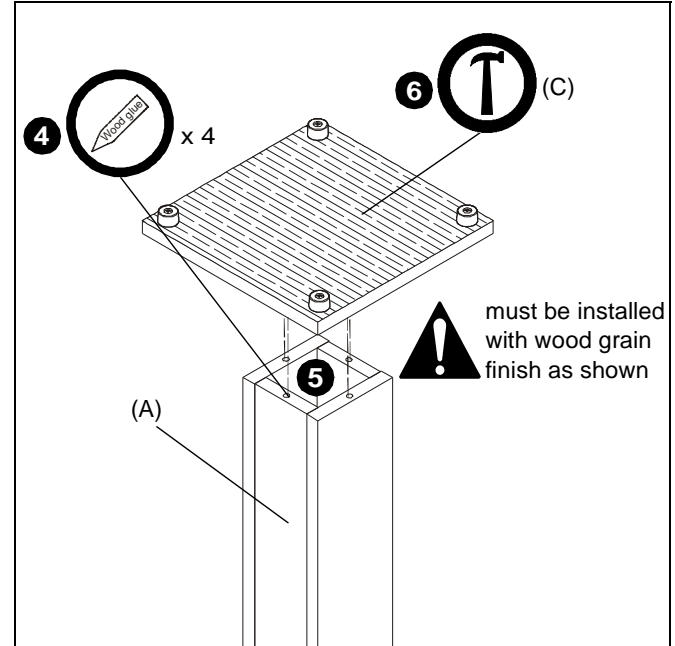

Figure 2
4. Fill the four holes on either end of the center column half full of wood glue. (See Figure 2)
IMPORTANT ! : Holes are not symmetrical! Bottom plate must be installed with the wood grain finish in the direction as shown in Figure 2!
5. Line up dowels (D) installed on bottom plate (C) with holes on center column (A) and insert dowels into holes. (See Figure 2)
6. Use a hammer to gently tap dowels into holes. Place another piece of wood on top of bottom plate to prevent hammer marks. (See Figure 2)